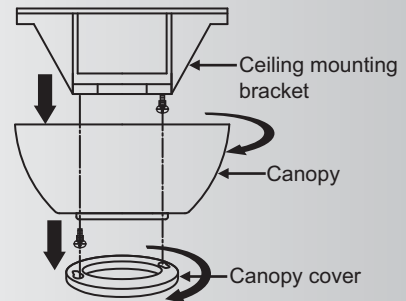

Fig. 5
Step 1. Remove the decorative canopy bottom cover from the canopy by turning the cover counter clockwise. (Fig. 5)
Step 2. Remove the ceiling mounting bracket from the canopy by removing (and save) one of the two screws. Loosen the remaining screw by a half turn. (Fig. 5)